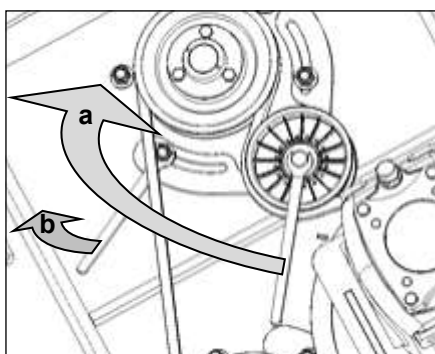

Fig. 41
6. Fit a spanner to the idler pulley bolt and pull on it to rotate the idler and tension the belt (Fig. 41, a).